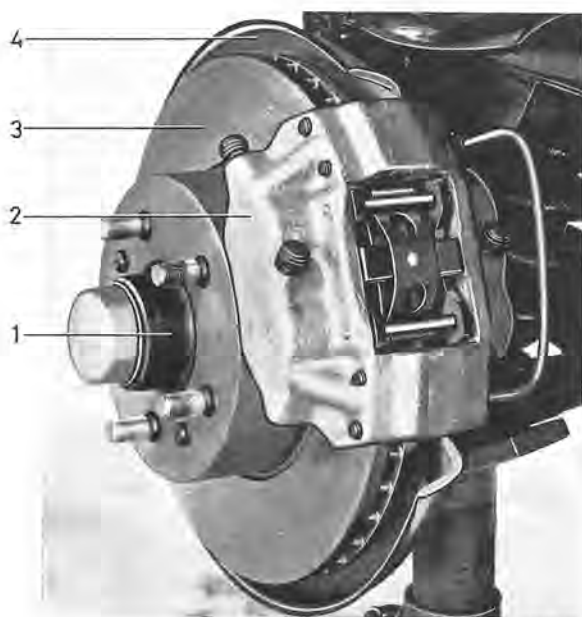

Fig. 5-7. Brake components, front wheel
Fig. 5-7 shows how the brake components are located at the front wheels. The disc (3) is of cast iron and is attached to the wheel hub with which it rotates. The disc is of the so-called "ventilated" type, that is, it has air ducts. This improves the cooling. The cover plate (4) protects the disc from dirt.